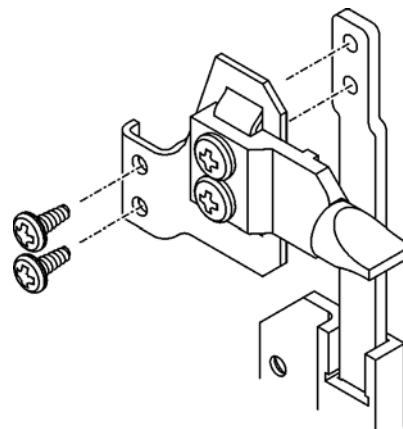

Figure 11. Fascia location
- Attach the slider knob assembly to the slider using two M4 x 7mm screws supplied (See figure 11).